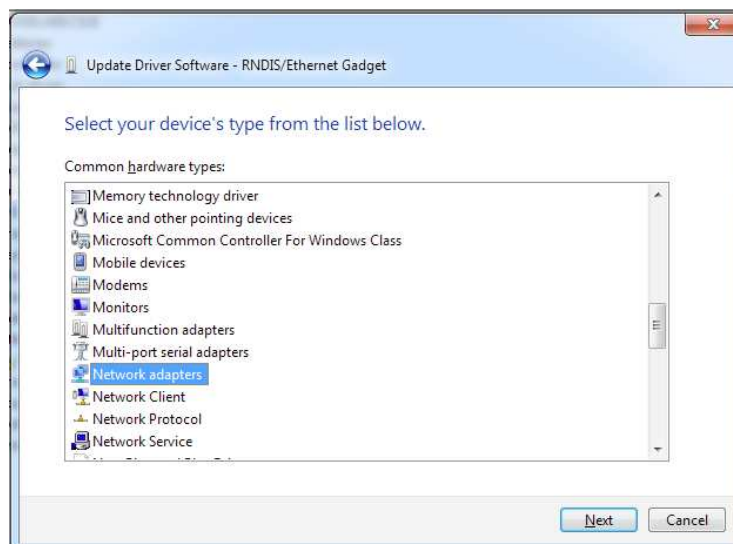

Figure 2-8. Windows 7 Update Driver Software Select Device Window
6. Select "Network Adapter." See Figure 2-8.